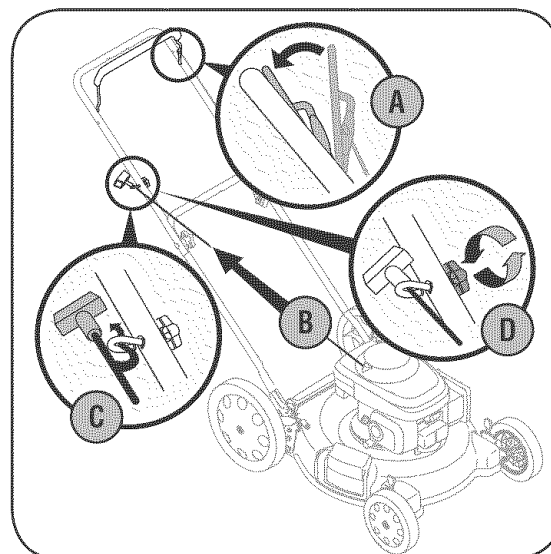

Figure 3-3: Pull recoil starter through rope guide and tighten.
3. The rope guide is attached to the right side of the upper handle, Figure 3-3. Loosen the wing nut which secures the rope guide.